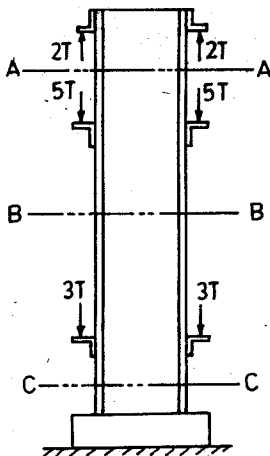

Fig. 22
59. Fig. 22 shows a column-100 sq-cm in cross-sectional area. Angle clips are welded to the column to support the loads as shown. The axial stresses at section AA, BB, and CC respectively in kg/cm² are